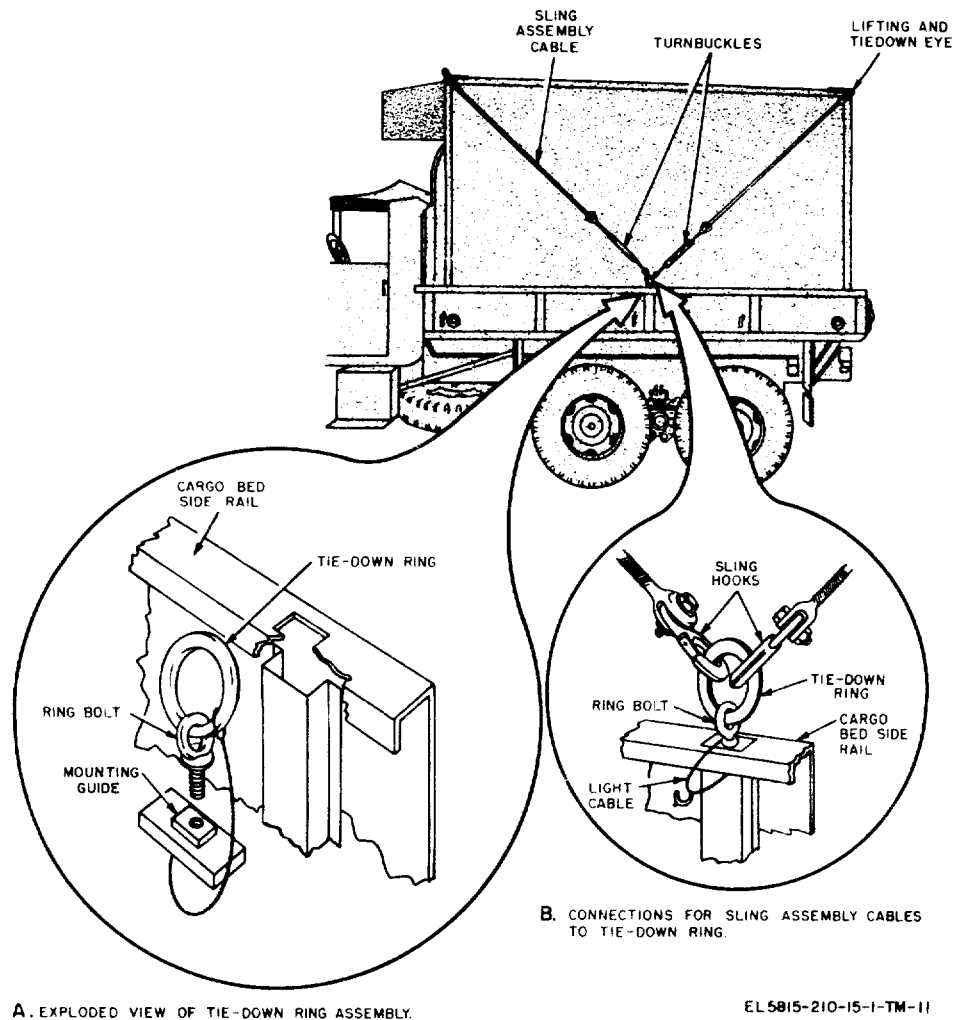

Figure 15. Diagram of sling assembly installation.
b. Securing Shelter to Truck (fig. 15).
(1) Install the tiedown ring assembly (A, fig. 15) (part of the sling assembly) above the center support on the cargo bed side rail of the truck.
(2) Use the hooks at the end farthest from the turnbuckles and hook each of the sling assemblies to a tiedown eye of the shelter.
(3) Secure the sling hooks to the tiedown ring (B, fig. 15).
(4) Follow the procedures given in (1), (2), and (3) above to secure the other side of the shelter.
(5) Tighten all turnbuckles evenly by hand. Turn each turnbuckle an additional one-half turn with a bar or rod inserted in the turnbuckle slot.
Page 22. Delete figure 15 and substitute new figure 15.